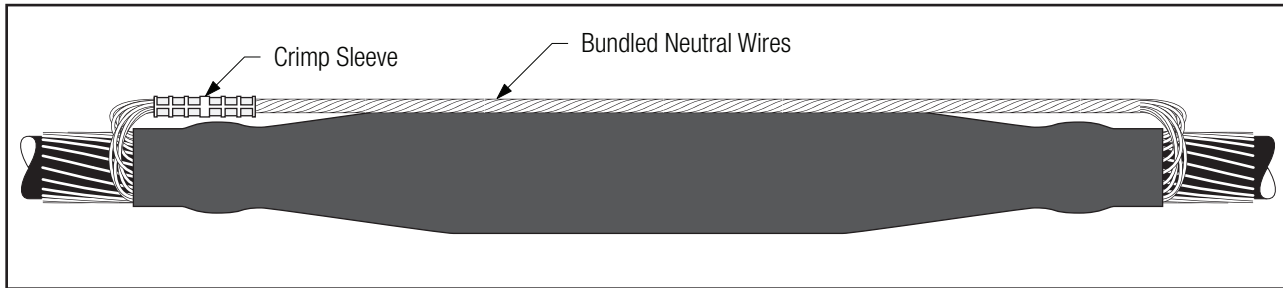

Figure 37
- 9.3 **For exposed neutral connection:** Route neutrals over splice and connect. Include two wires routed under splice jacket (*Figure 37*).